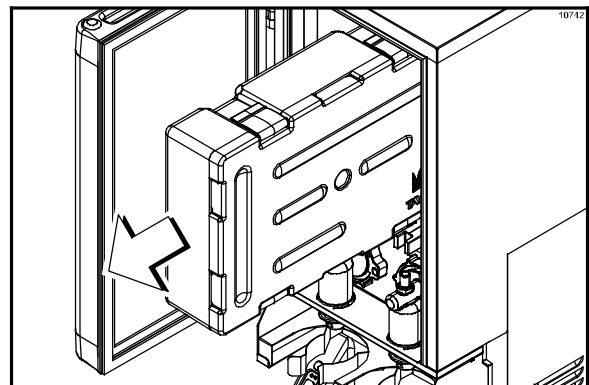

Figure 16
1. Remove the concentrate container from the dispenser cabinet. (See Figure 16.)